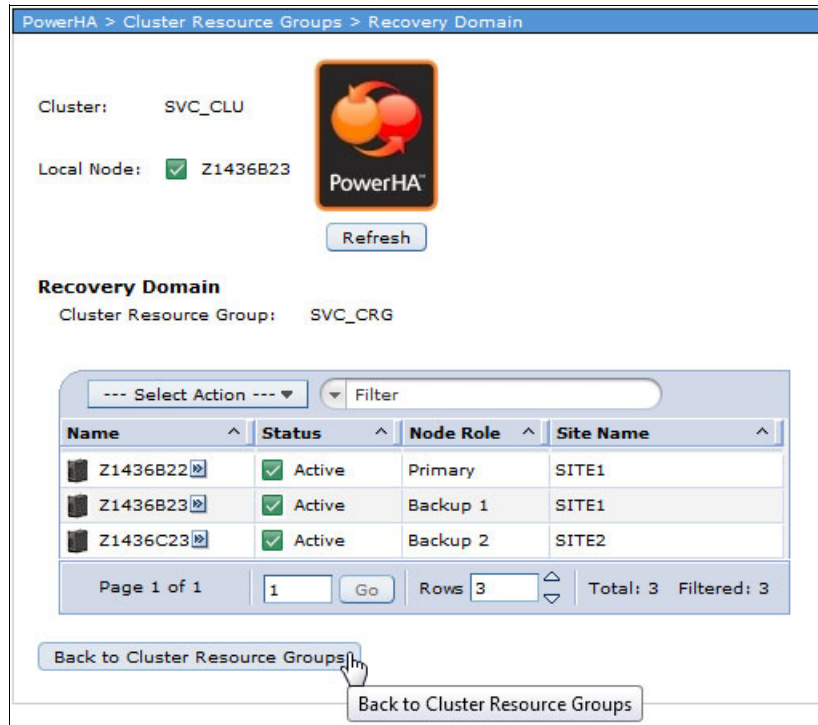

Figure 4-52 Three-node cluster: Recovery domain overview
13. The recovery domain now consists of three cluster nodes, as shown in Figure 4-52. Click **Back to Cluster Resource Groups** and return to the main PowerHA menu.